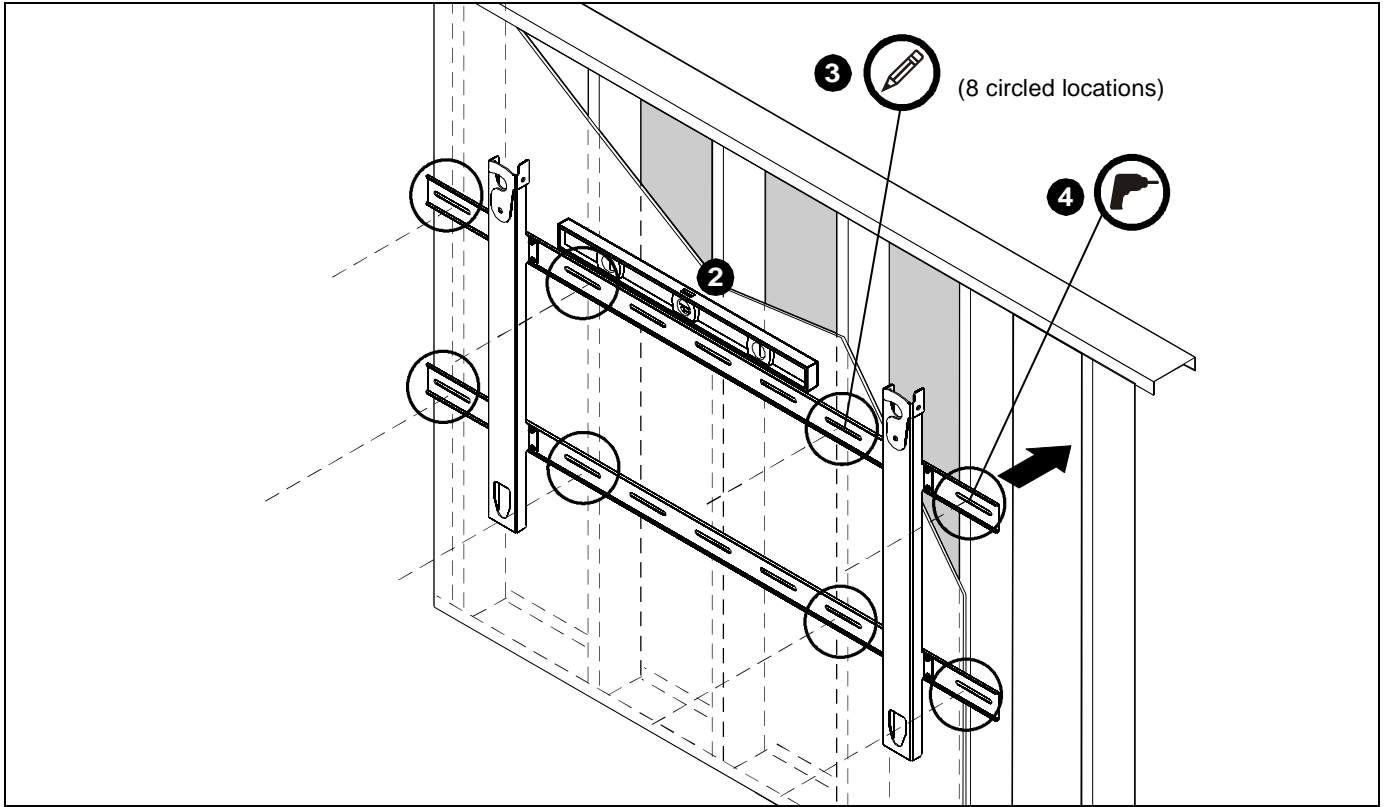

Figure 3
1. Using appropriate lifting device, raise assembled mount and place mount against wall in desired installation location. (See Figure 3)
2. Level and adjust horizontal position making certain that required mounting slots in upper and lower horizontal brackets on mount are properly positioned over studs. (See Figure 3)
- IMPORTANT ! :** Only the circled mounting slots (See Figure 3) should be used.
3. Using a pencil, or similar marking tool, mark the location of mounting holes in mount onto surface. (See Figure 3)